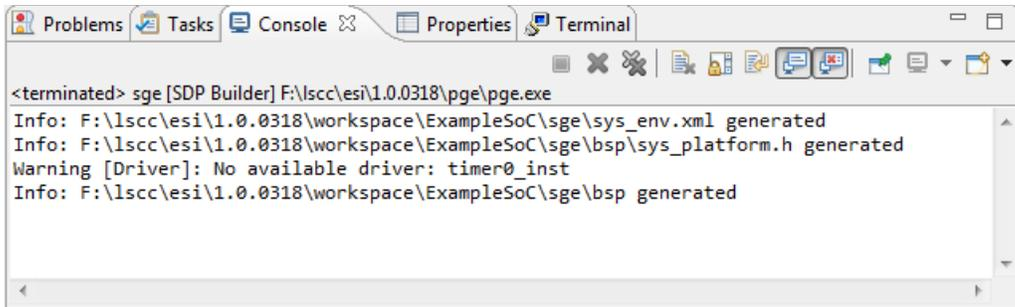

Figure 3.9. Build Result of SoC Project
- Check the building result in the **Console** view (Figure 3.9).